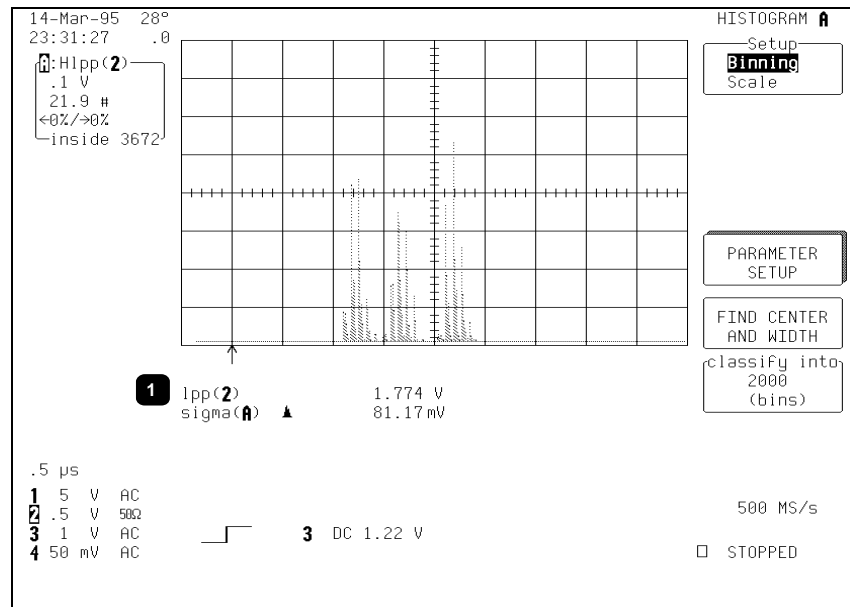

Figure 6.3
Figure 6.3 shows a histogram display of 3672 parameter measurements divided into 2000 bins. The standard deviation of the histogram sigma (item ①) is 81.17 mV. Note the histogram's jagged appearance.